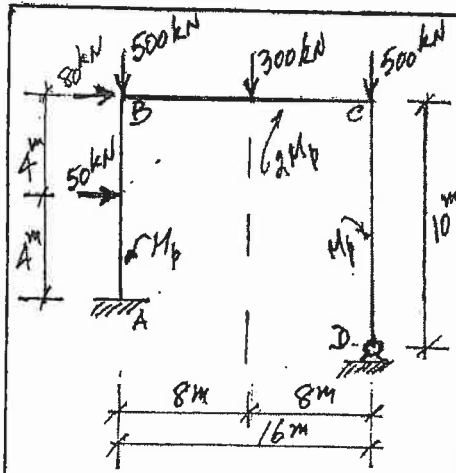

FIGURE 1
1. Figure 1 shows a steel rigid frame to be designed using the Plastic Method of Design. The plastic moment capacities of the members are given.